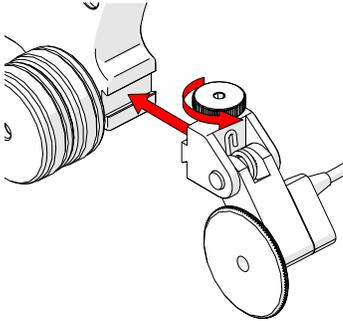

Fig. 36 - Attach to wheel block
1. Loosen the dovetail jaw and mount it to the wheel block with handle (Fig. 36).